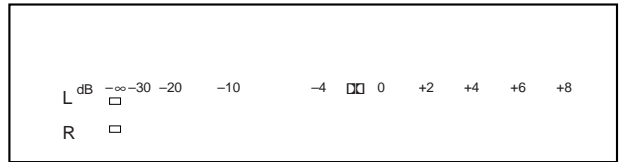

figure 1
2. Enter the test mode and display as figure 1.